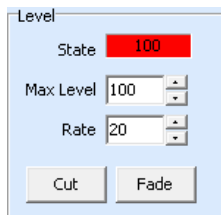

Figure 239 DSK Sub-Device Contribution Level to PGM Mixer
- If the sub-device is a keyer (DSK), then the value configured will set the level of transparency of the image sent to the mixer. A value of 100 adds the image at maximum opacity. Fig. 239 shows the 'State' field of the ICE GUI after the button for the DSK has been pressed, with the Level configured at 100.